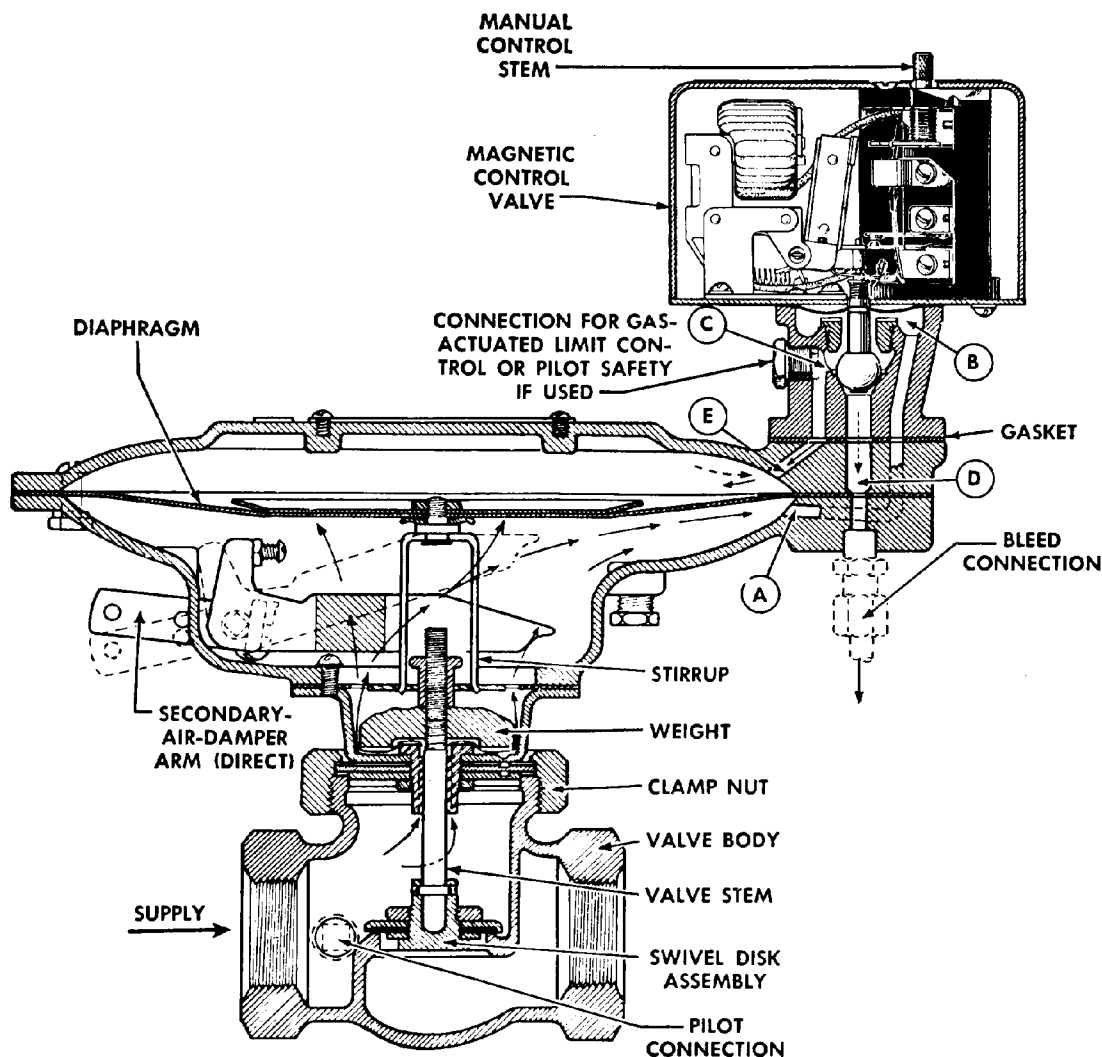

Figure 7-6. Magnetic diaphragm gas valve.
(3) *Magnetic, medium speed opening.* In magnetic valves with medium opening speed, provision is made to communicate gas pressure from the main gas supply to the underside of the diaphragm at all times (figure 7-6). This gas pressure is also communicated up through Channel A and into Channel B. The magnetic control valve shown is in the deenergized position.